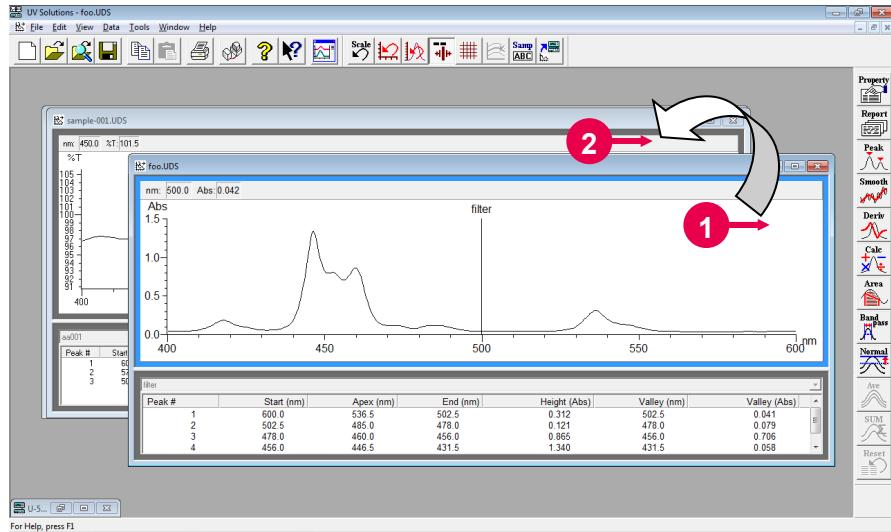

Fig. 5-27
This method is available when two kinds of spectrum windows (already processed windows) are displayed on the screen as shown in Fig. 5-27.
- (1) Drag the navy blue frame for a spectrum in the following procedure (refer to (1) in Fig. 5-27).
- (2) With the left mouse button held down, bring the mouse pointer onto a spectrum to be overlaid (refer to (2) in Fig. 5-27). When the mouse pointer changes as shown in Fig. 5-28, drop the mouse (release the left mouse button).